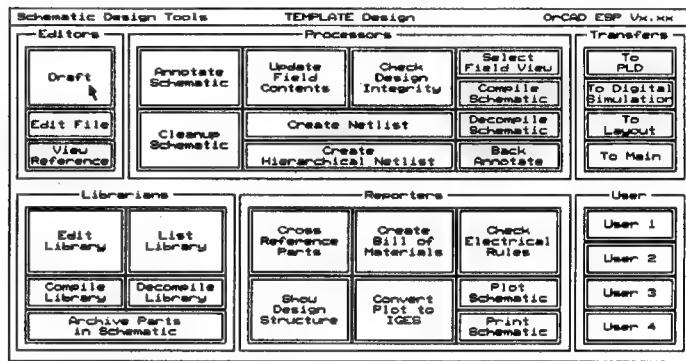

Figure 2-6. *Schematic Design Tools 386+* screen.
2. Select the **Execute** command. The **Schematic Design Tools** screen displays (figure 2-6).